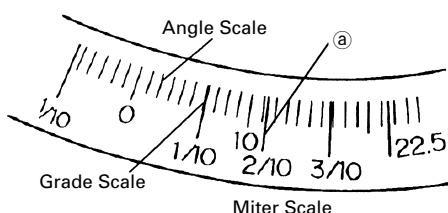
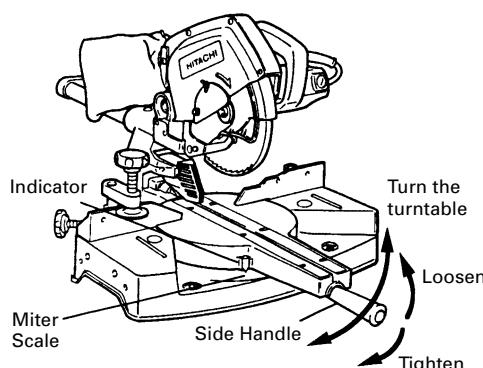

Fig. 24
Fig. 26
- (1) Loosen the side handle and adjust the turntable until the indicator aligns with the desired setting on the miter scale (Fig. 26).
- (2) Re-tighten the side handle to secure the turntable in the desired position.
- (3) The miter scale (Fig. 24) indicates both the cutting angle on the angle scale and the gradient on the grade scale.
- (5) Therefore, to cut a workpiece at a grade of 2/10, set the indicator to position **a** as indicated in Fig. 24.